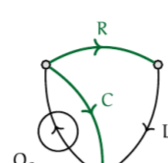

Figure fluid.1: a linear graph and normal tree (spine) for a nonlinear fluid system.
- Consider a fluid system with an input volumetric flowrate  $Q_i$  into a capacitance  $C$  that is drained by only a single pipe of nonlinear resistance  $R$  and  $L$  as shown in the linear graph of Figure fluid.1. The nonlinearity of  $R$  is a good way to model an overflow. In this lecture, we will derive a nonlinear state-space model for the system—specifically, a state equation—and solve it numerically using Matlab.
- Fig. fluid.1 already shows the normal tree. There are two independent energy storage elements, making it a second-order ( $n = 2$ ) system. We define the state vector to be